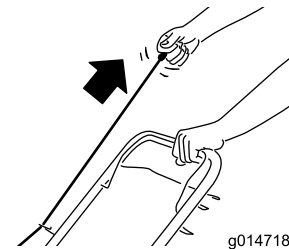

Figure 13
2. Pull the recoil-start handle (Figure 13).